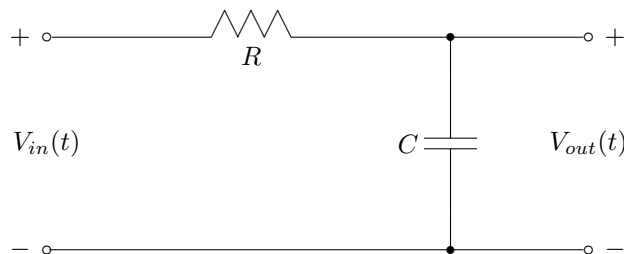

Figure 1.0.1: RC Circuit
In this lab you will be asked to measure the output response of the series RC circuit shown in Fig. 1.0.1 below for a variety of inputs, including a step, a combination of a step and a ramp, and a sinusoid. You will then compare your results to those computed as part of your pre-lab assignment.
1. Build the RC Circuit shown in Fig. 1.0.1 of the lab manual with  $R = 1 \text{ K}\Omega$  and  $C = 1 \mu\text{F}$ .
- Assemble on a protoboard an RC circuit corresponding to Fig. 1.0.1 with  $R = 1 \text{ K}\Omega$  and  $C = 1 \mu\text{F}$ .